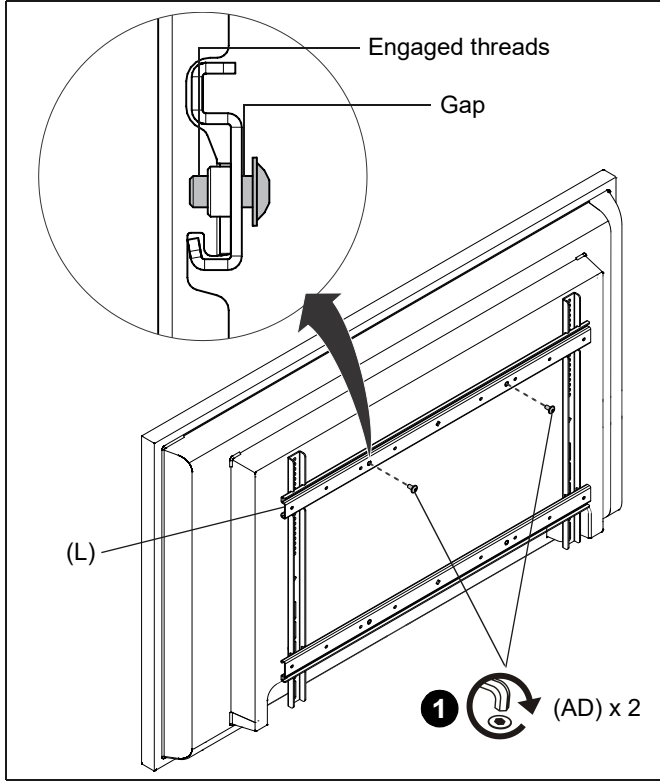

Figure 11
1. Partially install two 5/16-18 x 5/8" screws (AD) into the upper horizontal interface (L). (See Figure 11)